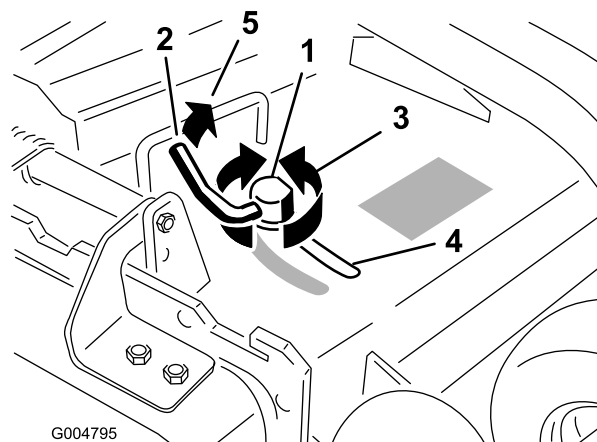

Figure 20
- To adjust the cam lock, swing the lever up to loosen the cam lock (Figure 20).
- Swing the lever back over to tighten the baffle and cam lock (Figure 20).